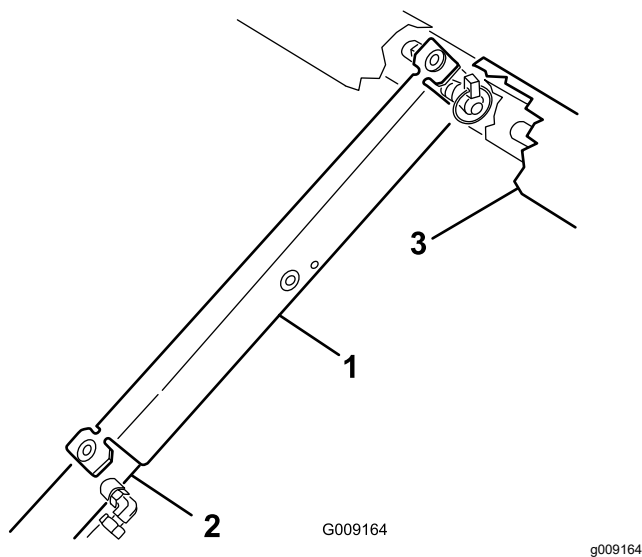

Figure 22
3. Push the bed support onto the cylinder rod, and ensure that the support-end tabs rest on the end of the cylinder barrel and cylinder-rod end (Figure 22).